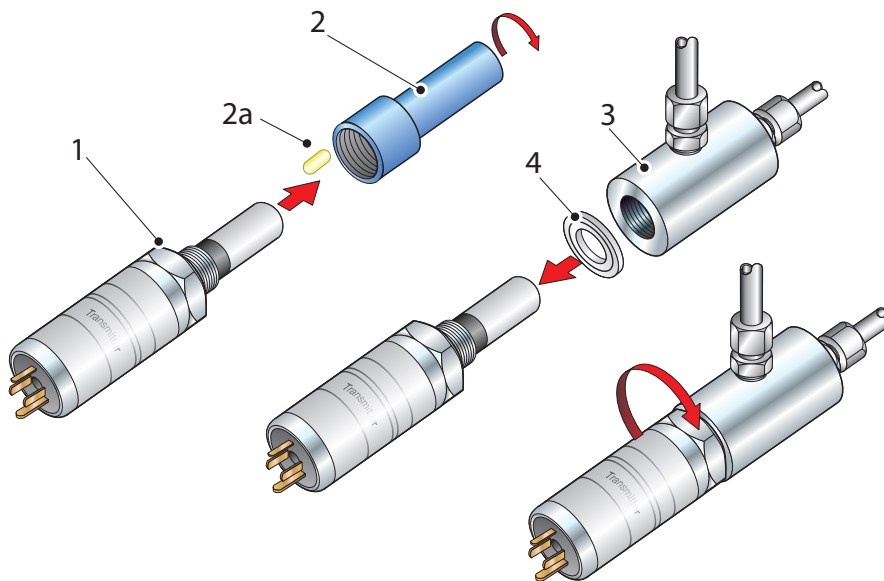

Figure 13 Transmitter Mounting - Sensor Block
To mount the transmitter into the sensor block (preferred method), proceed as follows (refer to *Figure 13*):
1. Insure that the blue protective cover has been removed from the tip of the transmitter (*Figure 13*).
2. Attach a bonded seal (2) over the threaded part of the transmitter body.
3. Screw the transmitter (3) into the pipe. Tighten enough to obtain a gas tight seal. (Torque will depend upon the pipeline material.) **NOTE: Do not overtighten or the thread on the pipe may be stripped.**